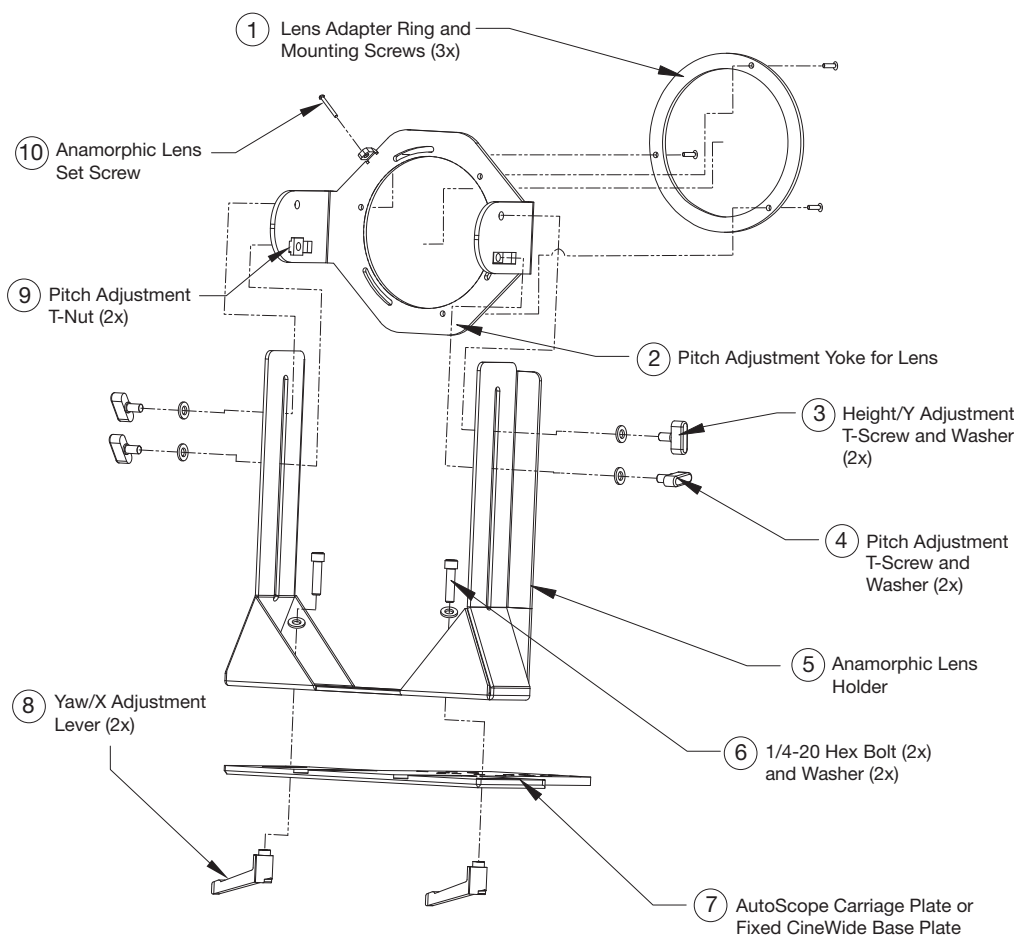

Figure 3-20. Anamorphic Lens Mounting Assembly - Exploded View
The VX-8d Anamorphic lens mount kit consists of everything shown in Figure 3-20. Some components shipped with your projector may differ slightly from what is shown in these instructions. If any items are missing or damaged, please contact your Runco dealer or Runco Customer Service at (800) 23-RUNCO.